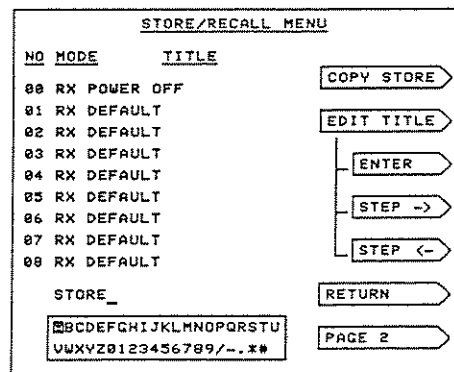

Fig. 3-72 STORE/RECALL MENU
- (3) Switch off the 2955B and then switch it on again to enable the instrument to read the new switch settings.
- (4) Press the HOLD DISPLAY key. HOLD OFF is displayed against the SCOPE/BAR key and PRT appears against the HELP key.
- (5) Press the key arrowed by PRT. This starts the Printer and results in a printout of the major settings and readings shown in the top half of the display. See the example in Fig. 3-72. Once printing has started, there is no way to abort it.
- (6) When using the ACCESSORY socket for power, the screen may be affected (e.g. the sides may be drawn in) due to power drain, especially when printing rows of dots. This is unimportant and does not affect measurement results since these are already frozen.